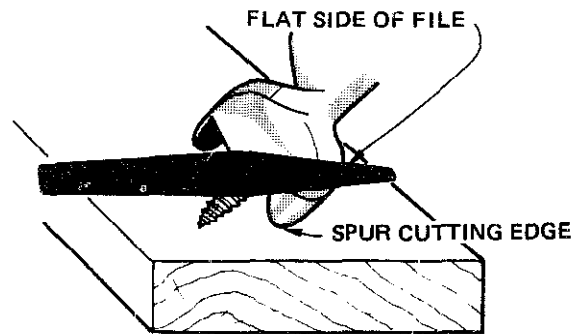

Fig. 10-14 Sharpening a cutting lip.
2. Rest the bit on a board with the screw down. Tilt the bit so that the cutter can be sharpened. See figure 10-14.